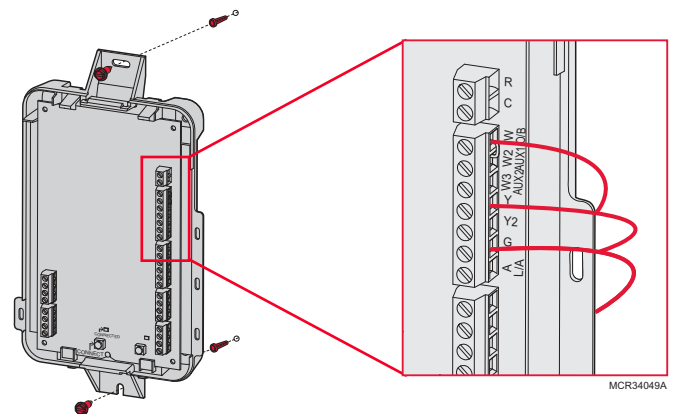

Fig. 7.
2. To wire the EIM, strip 1/4" insulation, then insert wires (see Fig. 7). For wiring diagrams, see “Wiring” beginning on page 118.